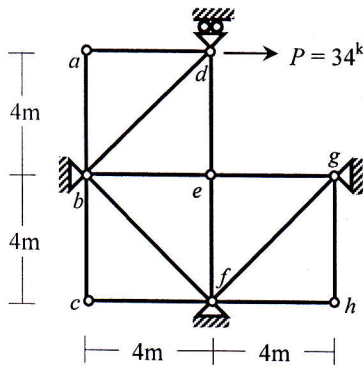

Fig. 4
5. For the plane truss *abcdefgh* shown in **Fig.4** calculate (i) deflections at joints *d* and *e*, (ii) Axial force in all members [Given: $S_x = \text{constant} = 10^4 \text{ kN/m}$; $P = 34^k$].
6. For the plane truss *abcdefgh* shown in **Fig.4**, $S_x = \text{constant} = 10^4 \text{ kN/m}$, mass per length $\mu = 1.05 \text{ kg-sec}^2/\text{m}^2$. Calculate its natural frequencies (neglecting zero-force members) using consistent mass matrices.